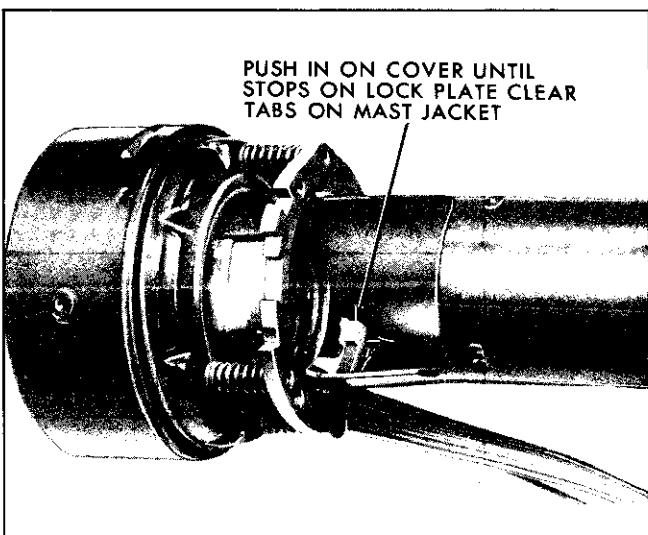

Fig. 9-6 Removal of Head Assembly
11. Loosen three switch mounting screws until cover can be rotated counterclockwise. It may be necessary to push on top of screws to loosen. For simpler reassembly, do not completely disengage screws. Rotate cover counterclockwise and pull straight off top of jacket (Figs. 9-6 and 9-7).